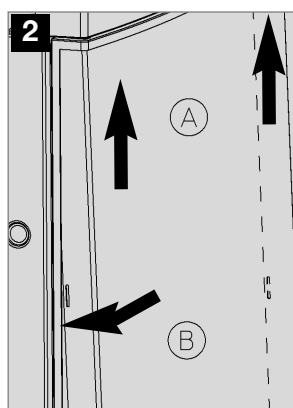

Fig. 35
- The gas connection to the appliance is effected by means of (Ermeto-) olive type fitting L8, DIN 2353-ST, complying with EN 1949 (see fig. 35).